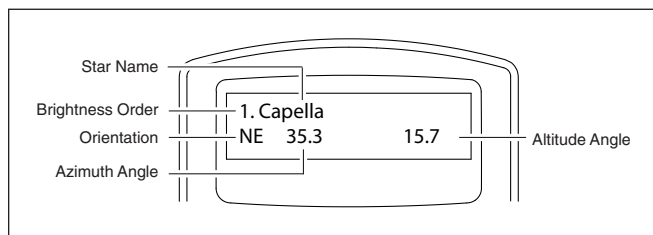

Figure 3. Alignment star information displayed on LCD.
4. Now, use the Scroll keys to scroll through the list of bright stars. There will only be a few stars, at most, on the list, and sometimes only one star will be on the list. The hand controller will display the name of the star on the first line, and the approximate position of the star (based on the time and date entered during the initial setup) on the second line (**Figure 3**). The first coordinate on the second line is an E-W coordinate (azimuth angle), and the second coordinate indicates degrees above the horizon. These